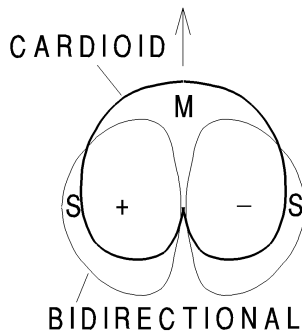

Figure 4 Mid-side technique. Left channel = mid + side. Right channel = mid - side. The polarity of the side mic lobes is indicated by + and -.
A special form of the coincident-pair technique is the mid-side (MS) recording method shown in Figure 4. A mic facing the middle of the orchestra is summed and differenced with a bidirectional mic aiming to the sides. This produces left- and right-channel signals. With this technique, the stereo spread can be remote-controlled by varying the ratio of the mid signal to the side signal. This remote control is useful at live concerts, where you can't physically adjust the microphones during the concert. MS localization accuracy is excellent.